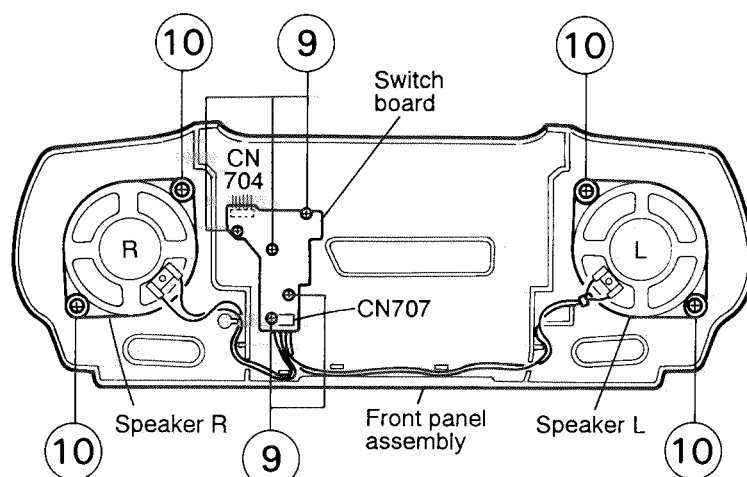

Fig. 5-14
■ Removing the switch board and speakers (See Fig. 5-14)
2. From the front panel assembly side, remove the five screws (9) retaining the switch board.
4. Remove the four screws (10) retaining the right and left speakers.